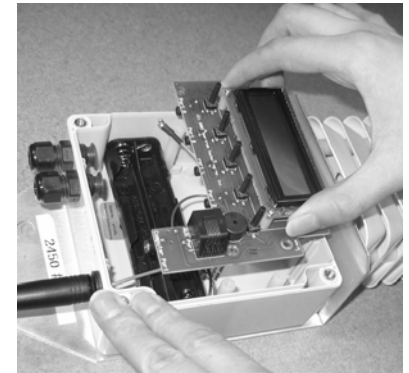

Fig. 1
5. Remove the four screws on the face of the circuit board. Use a thumb and finger to grasp the sides of the display panel, and carefully lift the combined boards straight up out of the case (see Fig. 1). Leaving the wires to the battery holder attached, set the board upside-down on the work surface (see Fig. 2).
11. Set the mini station circuit board loosely back in the case. Ensure that the loose end of the communications cable is accessible near the battery holder. As before, use a thumb and finger to grasp the sides of the display panel, and carefully lift the combined boards straight up slightly, and then straight down into the case (see Fig. 1). The six pins at the top of the board need to fit into the socket just below the top of the case. If you have inserted it correctly, the board will be centered left-to-right in the case, and the four screw holes in the board will be aligned with the mounting posts.